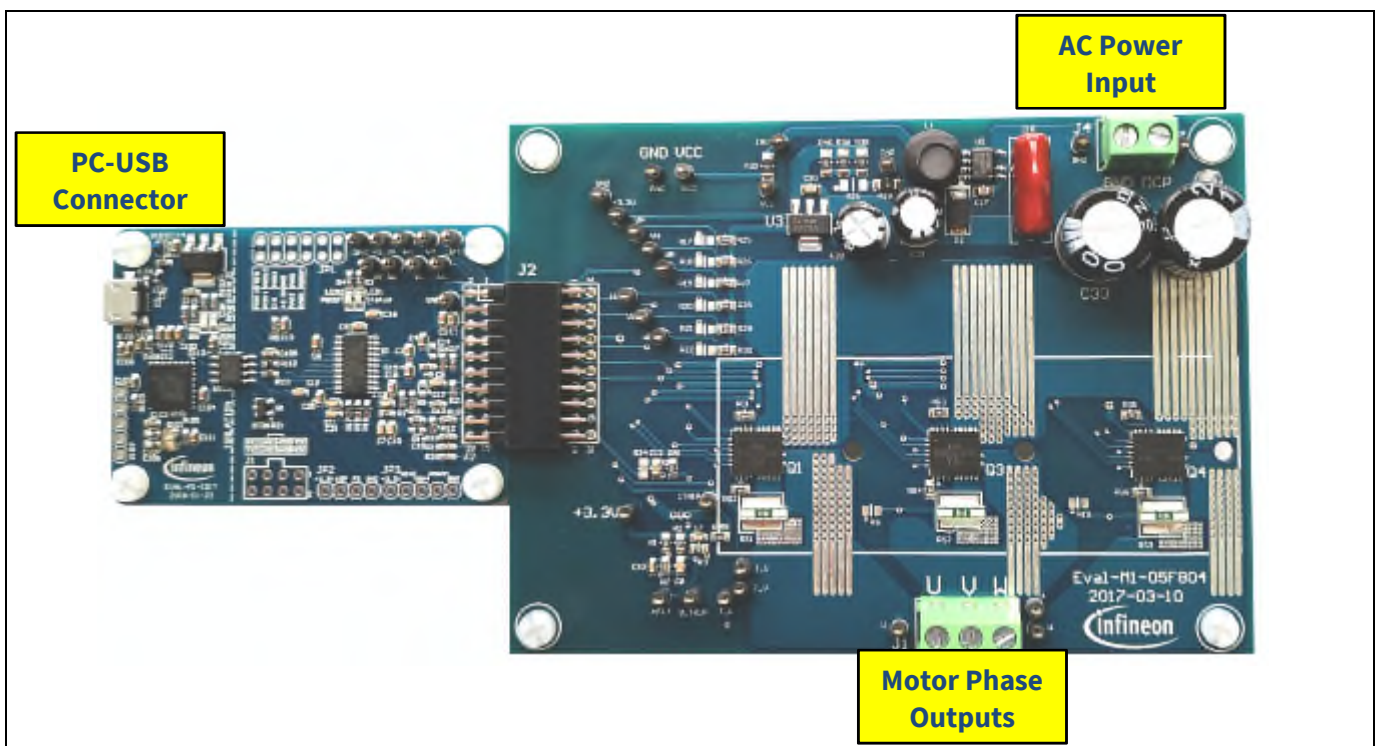

Figure 5 System connection example using EVAL-M1-101T and EVAL-M1-05F804
3. Connect EVAL-M1-101T's M1 20-pin interface connector (J2) to power board (For example EVAL-M1-05F804, see Figure 5).